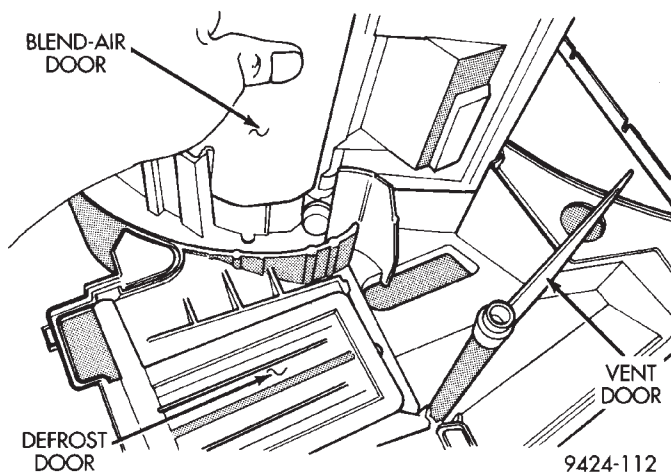

**Fig. 74 Blend-Air Door**
- (20) Remove blend air door from lower housing (Fig. 74).